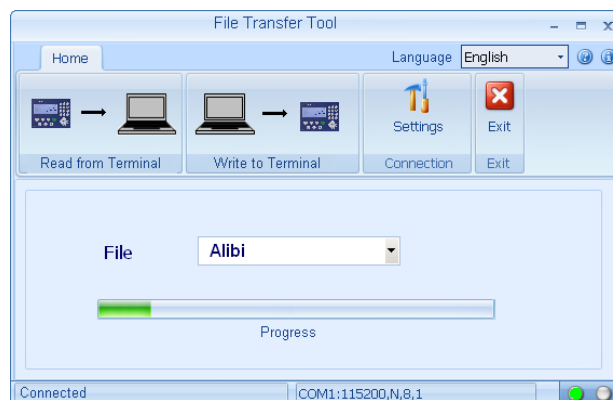

Figure 3-4: File transfer process bar
7. Once the transfer process begins, the **Home** tab of the IND246 File Transfer Tool will display a progress bar (Figure 3-4).